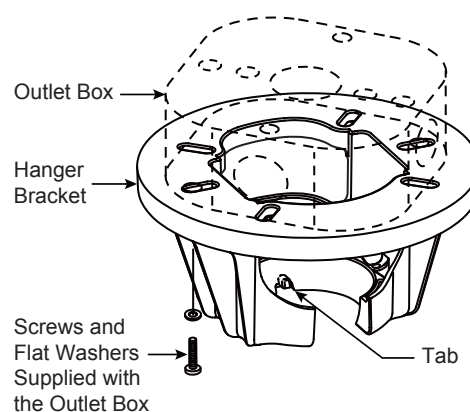

Figure 3
3. Loosen the two set screws and locking nuts in the downrod support of the motor assembly. Route the black, white and blue wires through the downrod. (Figure 3)
- ☐ 1. Securely attach the hanger bracket to the outlet box using the outlet box screws and washers supplied with the outlet box. (Figure 3)
NOTE: Outlet box screws pass through slotted holes of the hanger bracket. (Figure 3)
- ☐ 3. Carefully lift the fan and seat the downrod/hanger ball assembly onto the hanger bracket that was just attached to the outlet box. (Figure 4) Be sure the groove in the ball is lined up with tab on the hanger bracket. (Figure 3)
2. Slide the receiver into the hanger bracket before wiring as shown in figure 3.